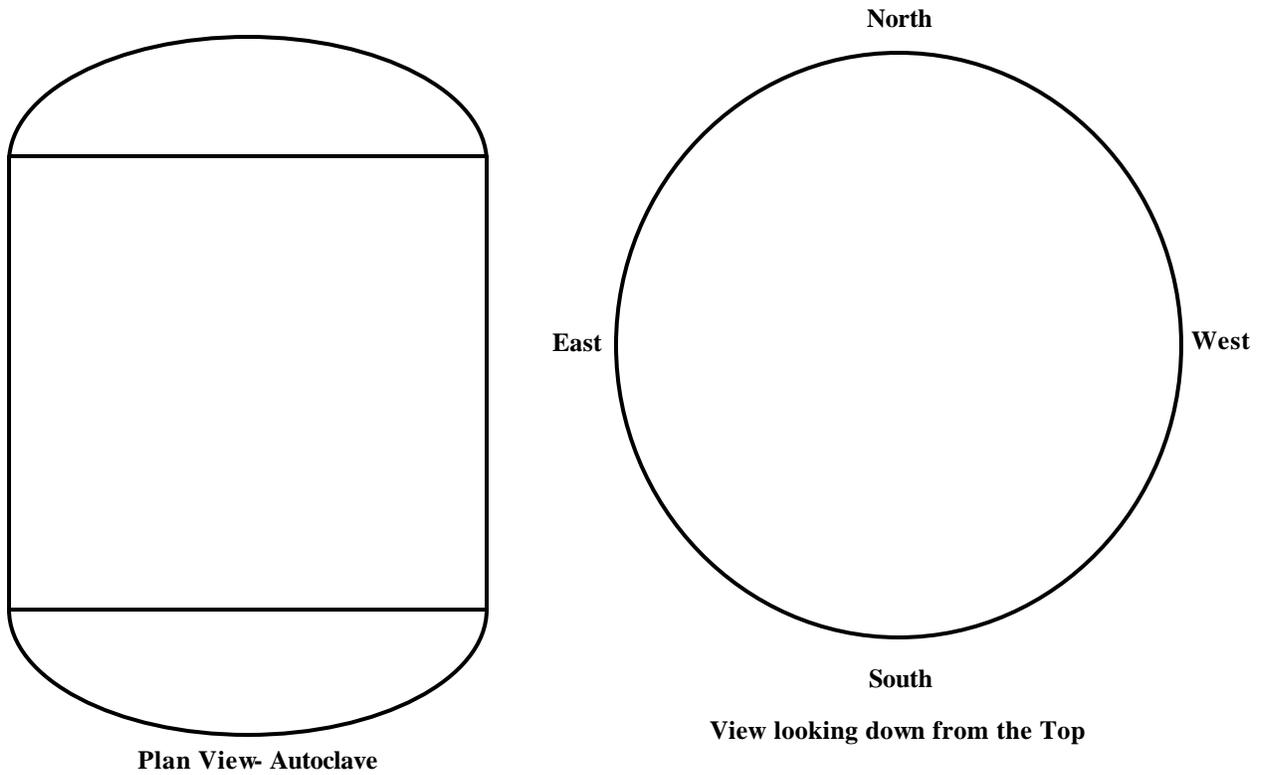

Figure 2-Thermocouple Locations
6.8.4 Install the thermocouples in the autoclave and on the coil being impregnated in the locations identified by the VPI Director. Using Table 2-Thermocouple Locations and Figure 2-Thermocouple Locations identify and show positions of each thermocouple.
(Reference see figure 2)